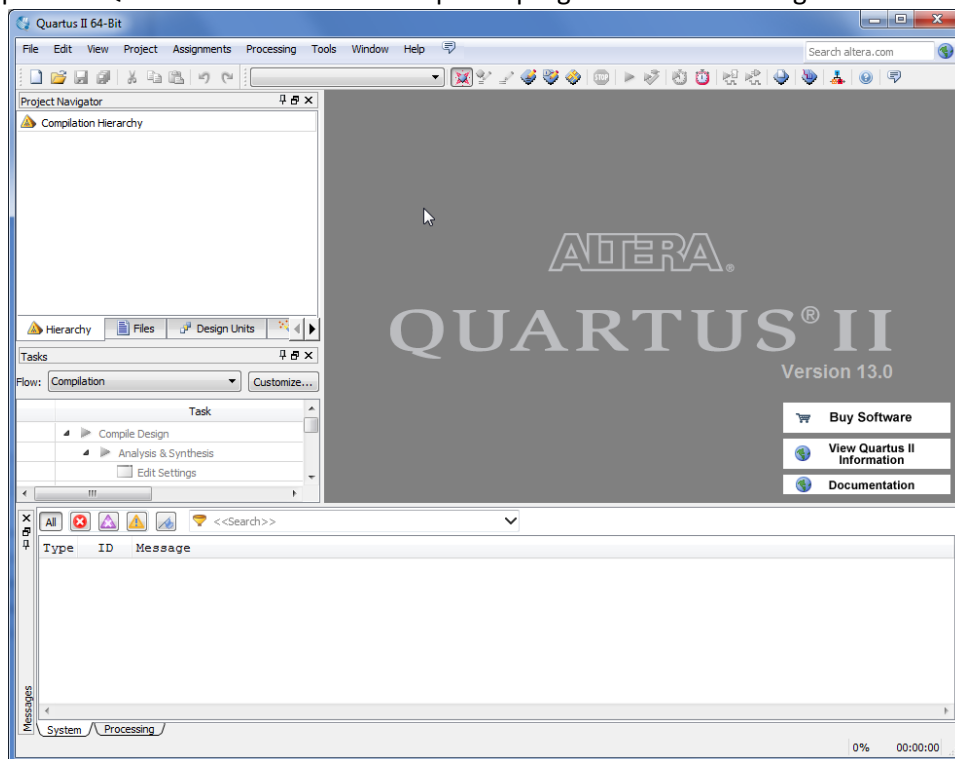

Fig 1. The main Quartus II display.
1. Open the Quartus II that in the desktop. The program should be in fig 1.